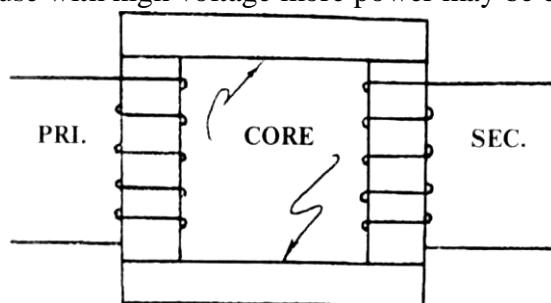

Fig. 10 Diagram of transformer (single-phase)
Transformers. — A transformer is a stationary device by which the voltage in an alternating-current system may be raised or lowered. It consists of an iron core surrounded by coils of insulated copper wire. There are two coils: the primary, to which current is supplied, and the secondary, from which current is led away. The voltage is "stepped up" or "stepped down" in exact proportion to the number of turns of wire in each coil. For instance, if the primary winding has 1,000 turns and is connected to a 2,200-volt supply, a secondary winding of 100 turns would give 220 volts (this would be called a "step down" transformer. See Fig. 10 for a simple diagram of a single-phase transformer).
4. Look at Figs. 10 and 11 and describe them.